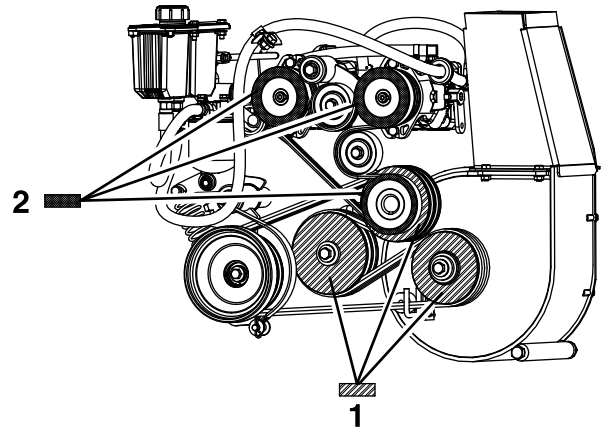

Figure 21
inch to 1/16 inch (0.8-1.6 mm). Use a straight edge to align all three surfaces (see Figure 21).
3. Using a straight edge, align each pump pulley with the engine pulley by sliding along the pump shaft (see Figure 21).